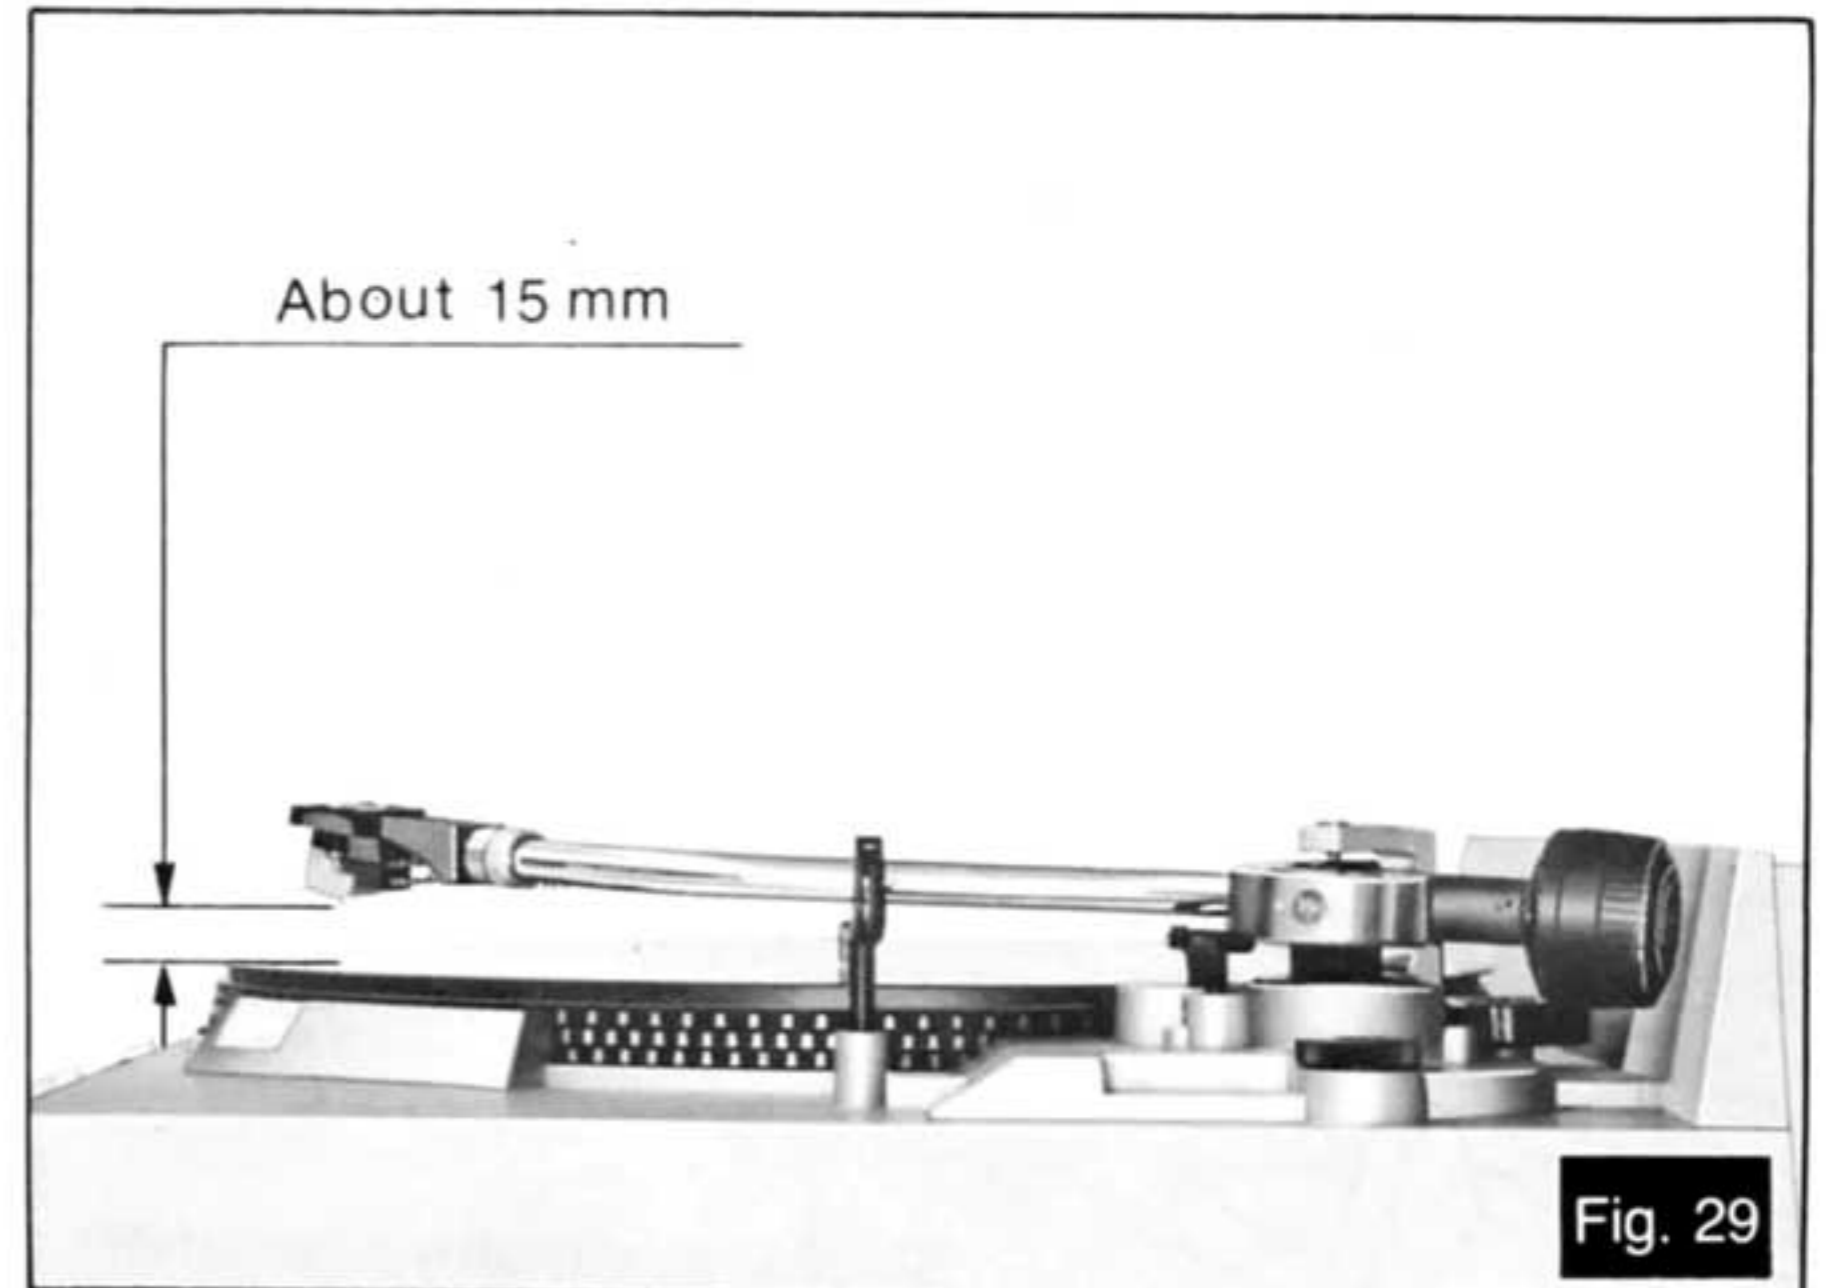

Fig. 29
## ① Adjustment of arm-lift height (See Figs. 29 and 30.)